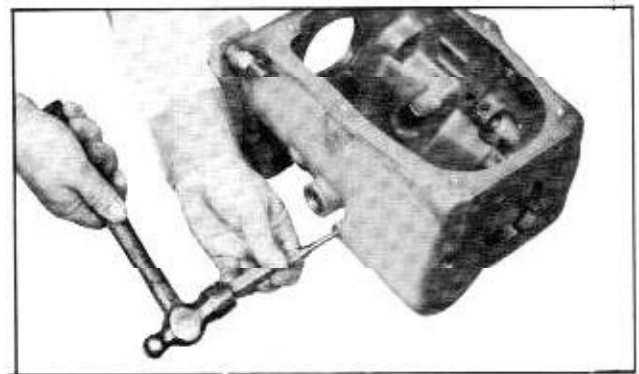

Fig. 11-18 Driving Lock Pin Into Idler Shaft
24. Drive the reverse idler gear shaft lock pin into the shaft. (Fig. 11-18)